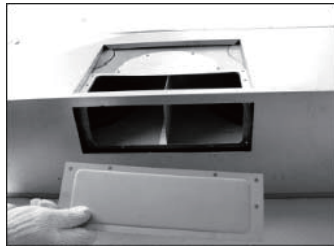

Fig. 4f
g. Place rear outlet panel on top of the unit and secure it. **(Fig. 4f-g)**